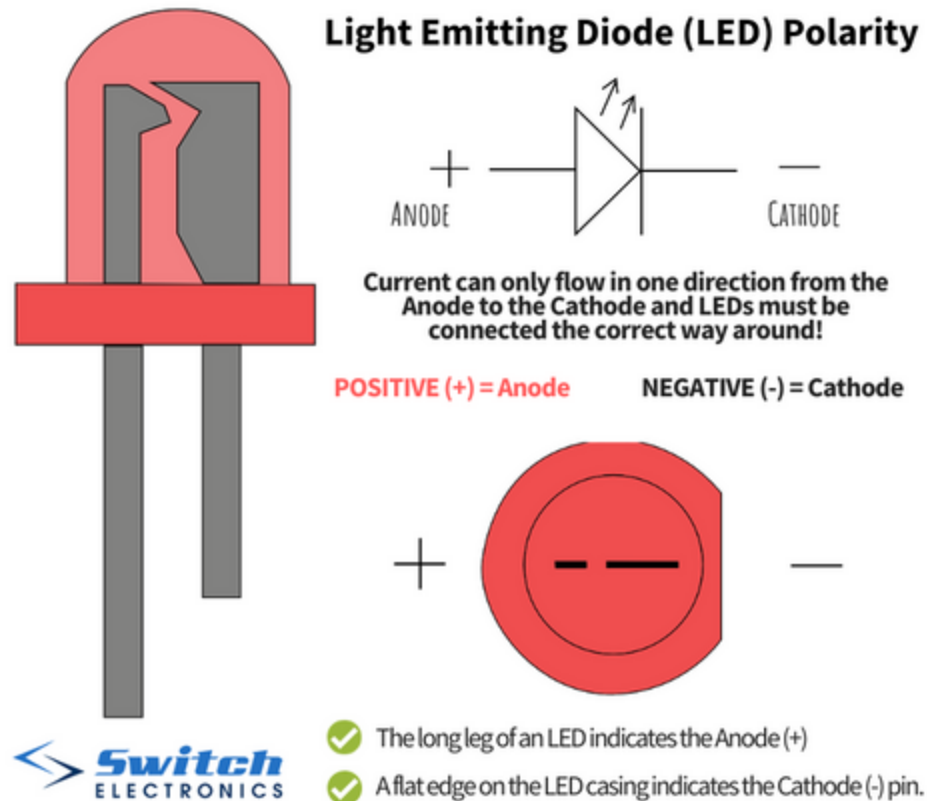

Figure 4.9 – IR Emitter and Detector (and an LED)
around the bottom of the LED and then find where it is flat, like in Figure 4.9. The flat side of the LED is the cathode, which corresponds to the flat line in a diode drawing. In other words, face the flat side of the LED in the direction of current flow. The current will flow from the rounded edge (Anode) to the flat edge (Cathode). The second method is to use the lengths of the legs of the LED. This is simple before the LED has been used, but once the legs have been bent or are in the breadboard, this method is more difficult. The shorter leg of the LED corresponds to the flat line in the diode drawing (Cathode). The current will flow from the Anode to Cathode, so from the longer leg, to the shorter leg. See Figure 4.9 for more details. Either method will allow you to keep track of polarity as neither of these devices will function if you hook them up backwards. For the emitter (the clear one), the round side (or long leg) is the anode (A) and the flat side (or short leg) is the cathode (C). It essentially functions as a diode that emits IR light when there is a current flowing through it. You will have to apply a forward bias (a positive voltage measured from the anode to the cathode) in order to turn the emitter on. The detector (the tinted one) is essentially a photo diode. Current will flow in proportion to the intensity of the IR light incident on it. The photo diode works in reverse bias mode which means a positive voltage must be applied from the cathode to the anode. Again, the flat side (or short leg) is the cathode (C) and the round side (or long leg) is the anode (A). When this device is detecting IR light, current will flow from the anode to the cathode.